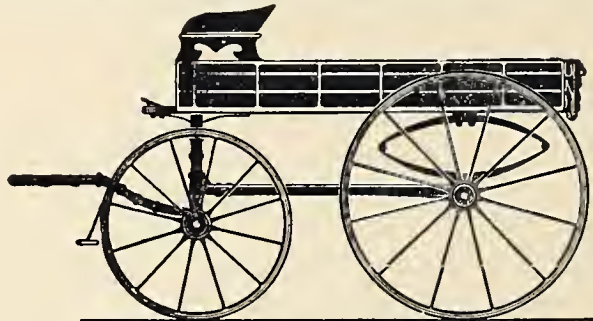

Fig. B 571.—Express Wagon.
**The Express Wagon.**—*Fig. B 571* shows one style of express wagon, but we have several, varying in size and in manner of make-up. This is a panel body wagon, made with a special view to city use. It also makes an excellent farm-wagon where a spring wagon is desired. The body can be built with plain sides if desired, and other variations to suit, as in other wagons already described.